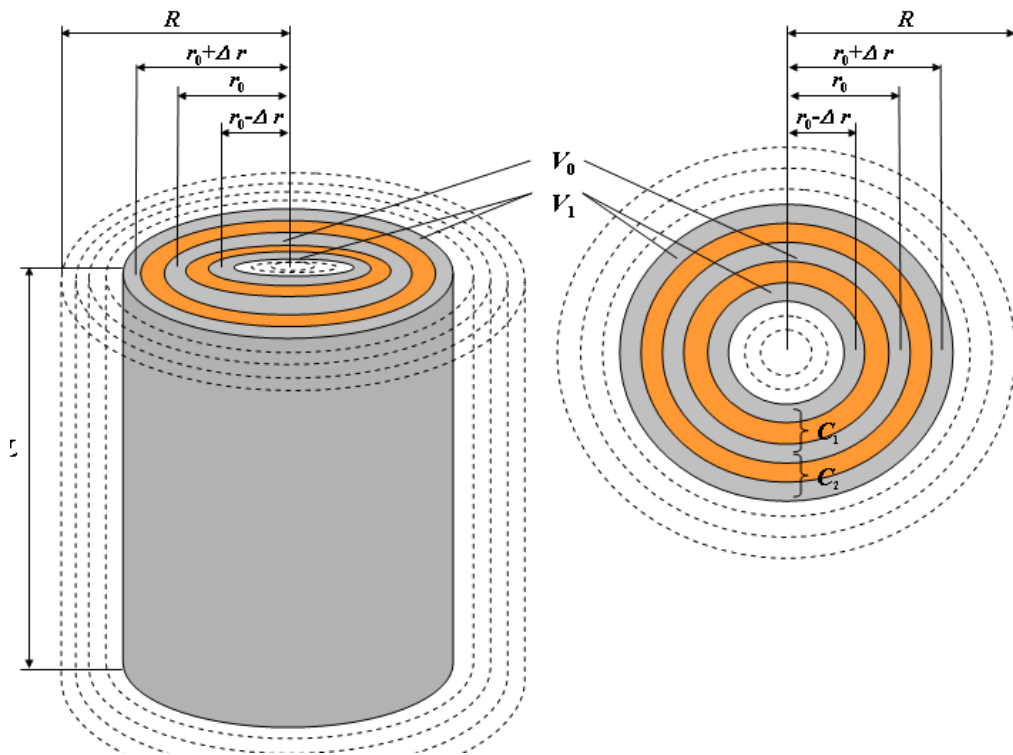

Figure 2: Model geometry to approximate the capacitance of the rolled capacitor. This sample pair is repeated thousands of times in a concentric fashion.
- (d) Find the capacitance of the model system in Figure 2, assuming that the voltage difference is given by the ideal case  $\delta = 0$ , but the charge  $Q$  is given by the calculation above.